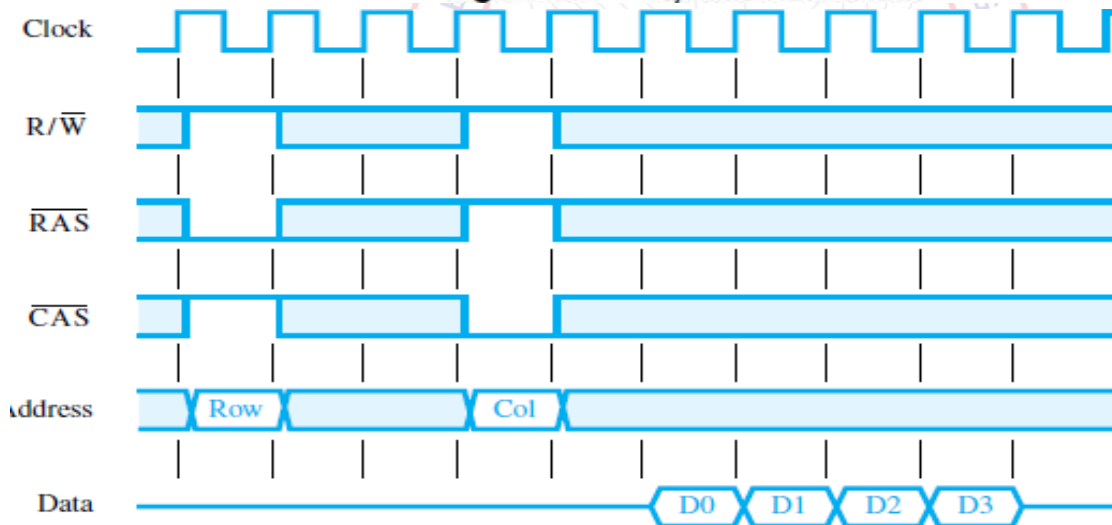

Figure 8.9 A burst read of length 4 in an SDRAM.
- First, the row-address is latched under control of **RAS''** signal (Figure 8.9).